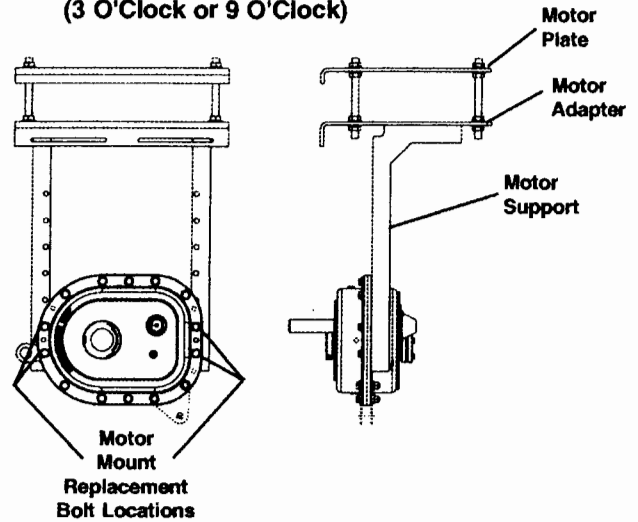

FIGURE 5-2
5.2.1 Remove the housing flange bolts as shown in Figure 5-2.